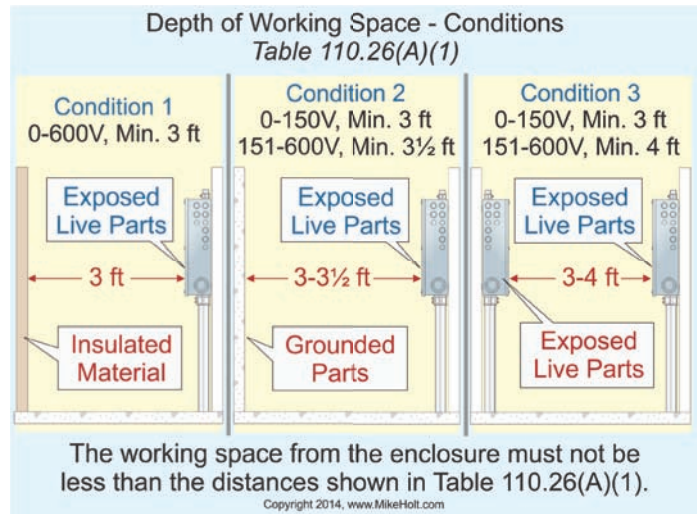

Figure 110-10
**(A) Working Space.** Equipment that may need examination, adjustment, servicing, or maintenance while energized must have working space provided in accordance with (1), (2), and (3):
**(1) Depth of Working Space.** The working space, which is measured from the enclosure front, must not be less than the distances contained in Table 110.26(A)(1). **Figure 110-10**